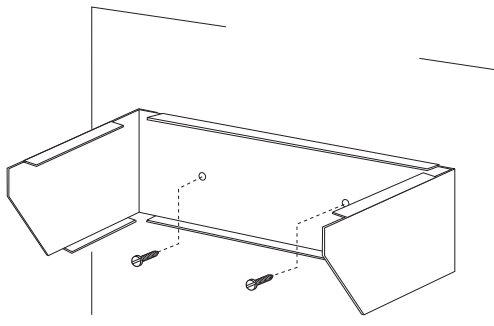

Figure 1 - Chassis Mounting
2. Use the mounting holes on the back of the chassis as a marking template and secure the chassis back to a flat vertical surface. Then reattach the front of chassis to the mounted back. (Fig. 1)